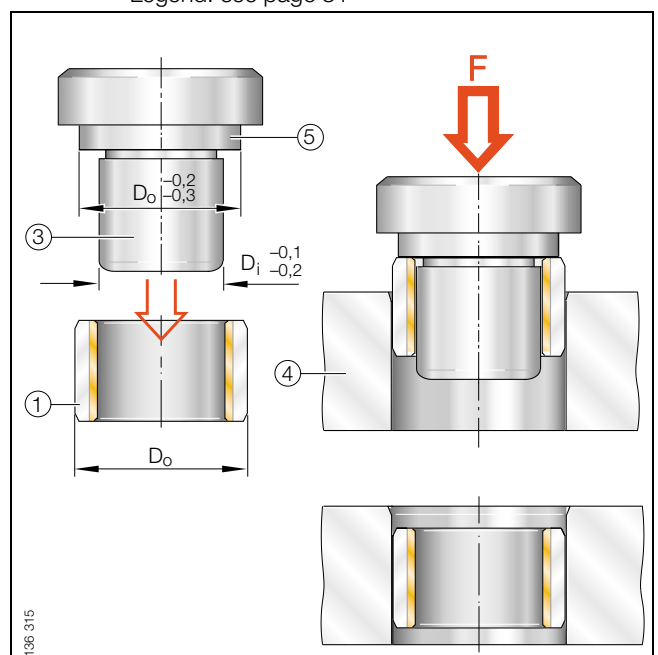

Figure 23 · Pressing in recessed, $D_o \geq 55$ mm
- press in recessed using arbor without auxiliary ring according to Figure 23.